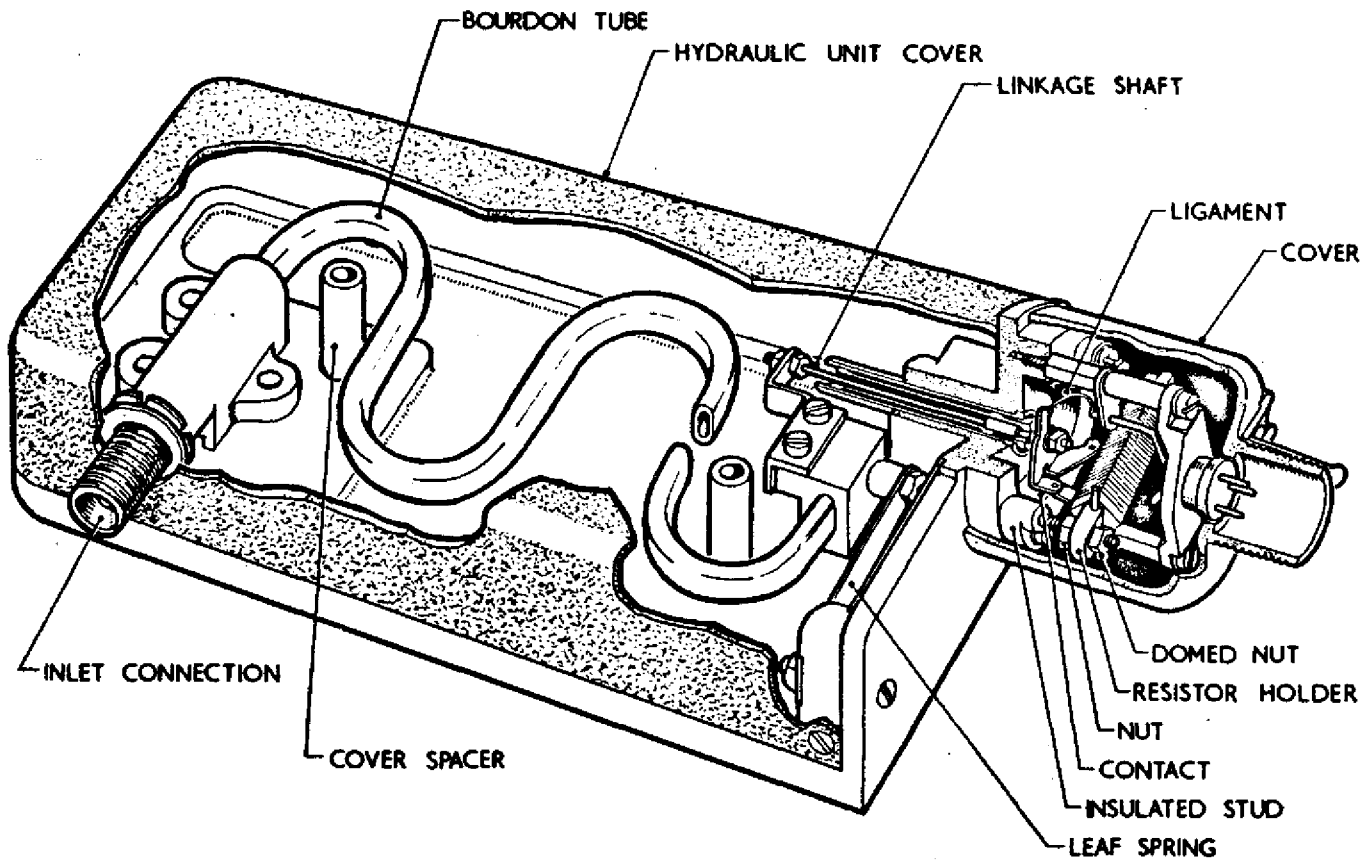

Fig.1. Sectional View of Pressure Transmitter
B. Detail (Refer to Fig.1 and 2.)